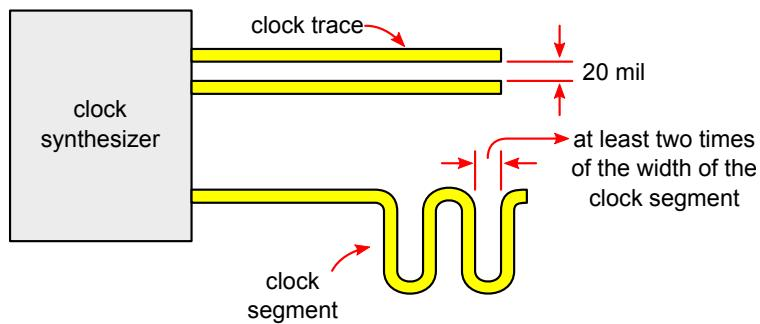

Figure 2-6: Suggested clock trace spacing
- The minimum space between one clock trace and adjacent clock traces is 20 mil. The minimum space from one segment of a clock trace to other segments of the same clock trace is at least two times of the clock width. That is, more space is needed from one clock trace to others or its own trace to avoid signal coupling (see Figure 2-6).